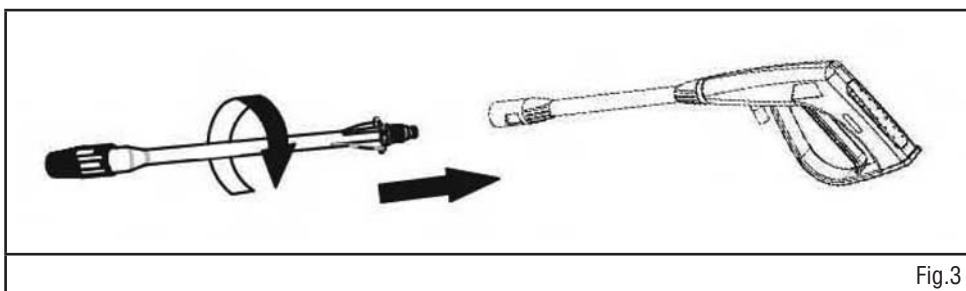

Fig.3
3. Insert the wand (#5 or #6) firmly into spray gun (#3), then twist it 1/4 turn until rectangular tab appears in the cut-out section of the gun assembly. (Fig. 3)